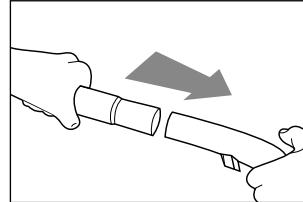

Fig. 3
- Insert the telescopic tube (L) into the handle (Fig. 3).